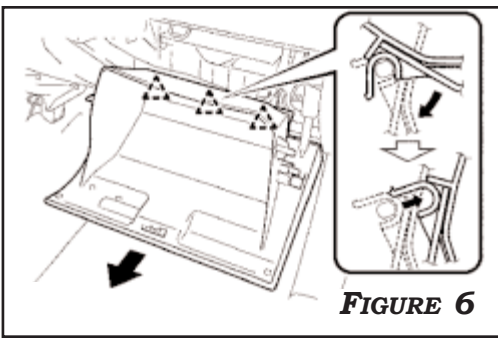

FIGURE 6
5. PULL THE GLOVE COMPARTMENT DOOR ASSEMBLY TOWARD THE REAR OF THE VEHICLE TO RELEASE THE 3 HINGES AND REMOVE THE GLOVE COMPARTMENT DOOR ASSEMBLY. **FIGURE 6**